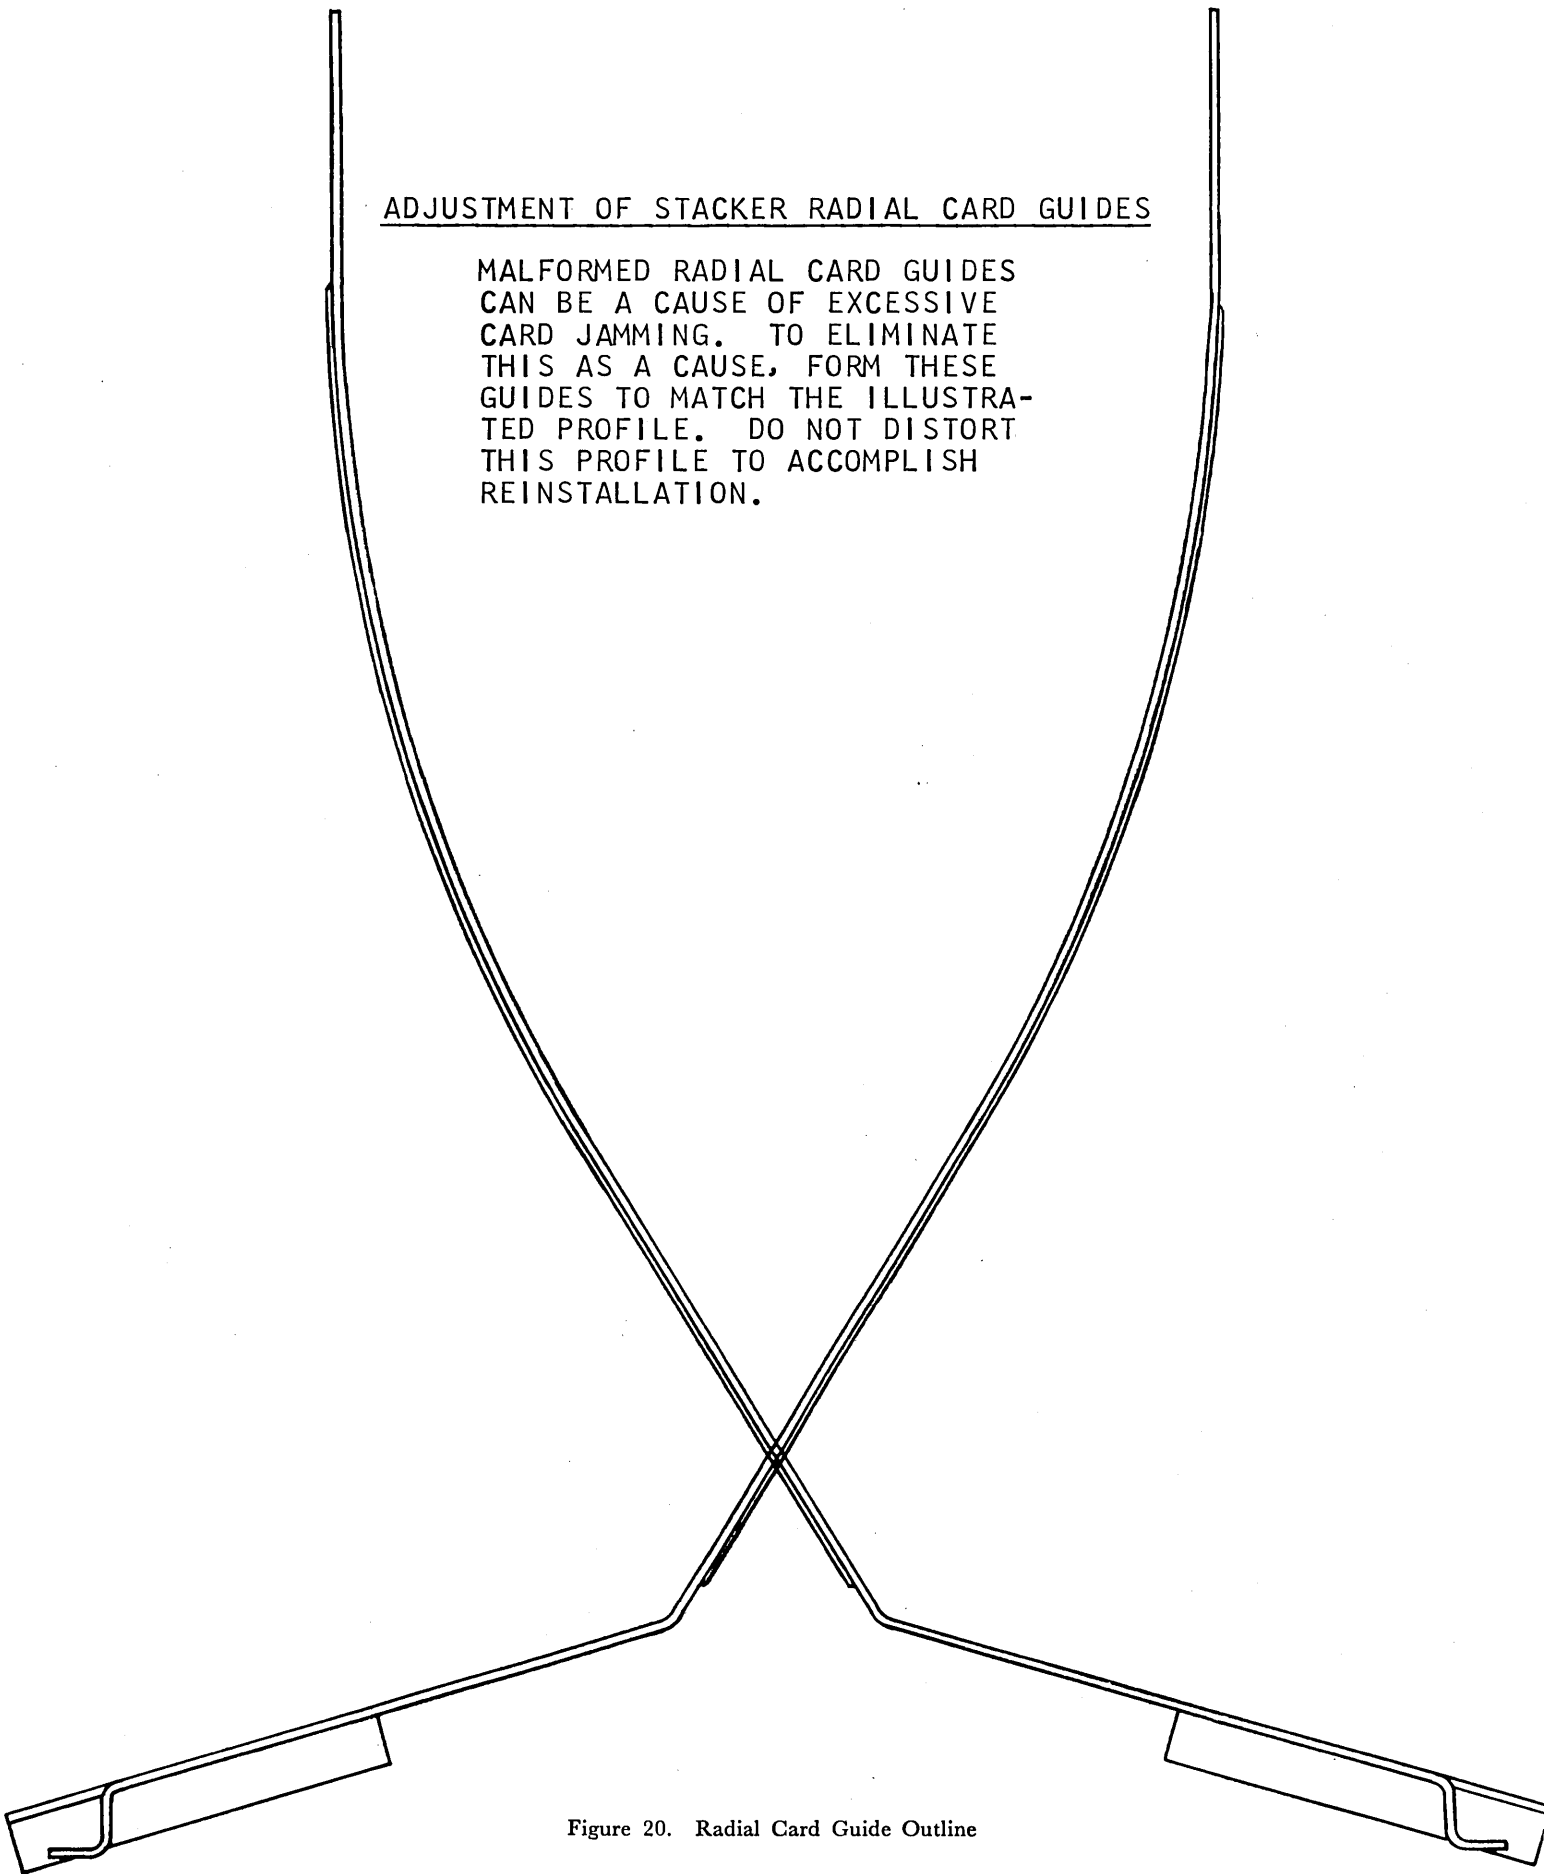

Figure 20. Radial Card Guide Outline
3. The radial guides should be square with pocket separators within .010" and formed as shown in Figure 20.